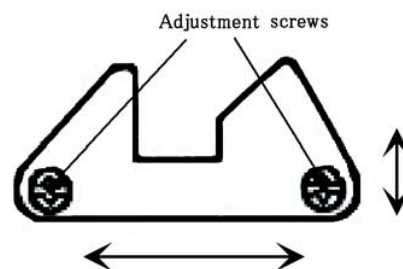

Fig.3
3. Loosen the shuttle hook cover adjustment screw, adjust the position of upper plate spring. (Fig. 3)